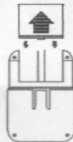

Figure 2
- Remove timer cover and slide battery compartment cover off in the direction of arrow. Install three AA 1.5-volt alkaline batteries. Slide compartment cover back into place. (See Figure 2)